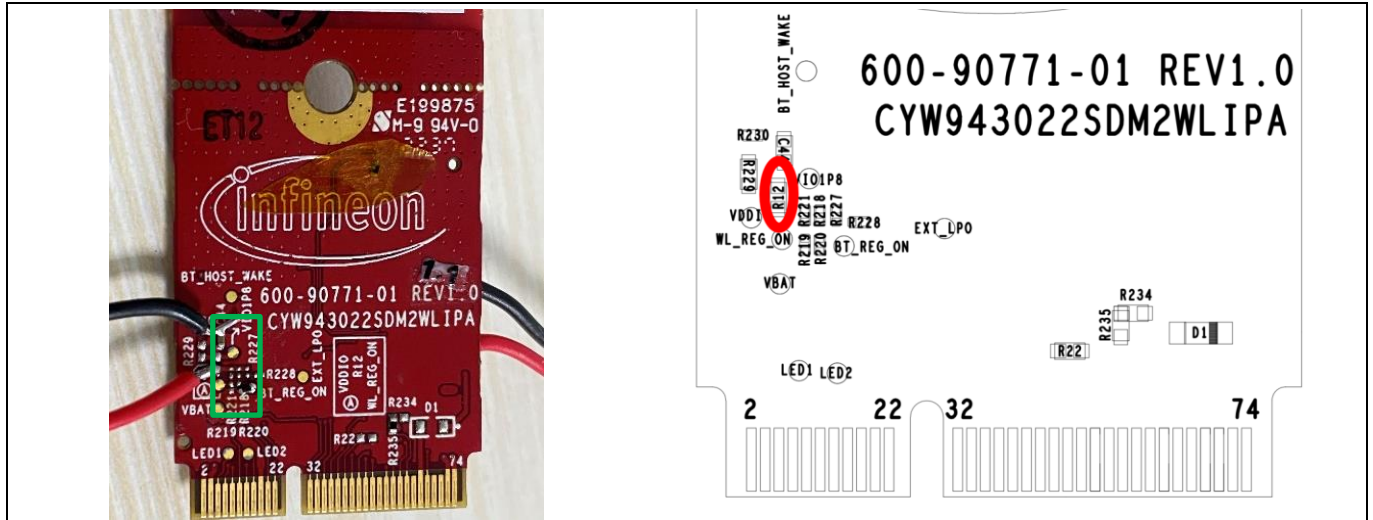

Figure 4 CYW43022 – VDDIO rework
- **VDDIO changes:** Remove R12 0Ω resistor to measure VDDIO current (I_{VDDIO}) individually (the red and black wires highlighted in Figure 4 are connected at the VDDIO pad) and connect both wires across the pad of the resistor where the power monitor is in series (ammeter mode) connection.